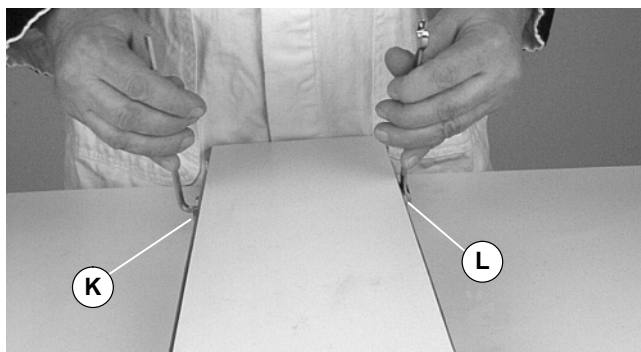

Figure 4
3. While maintaining tension on pinion gear (K of Figure 4) loosen lock screw (L). Rotate pinion gear (K) clockwise to release conveyor belt tension.